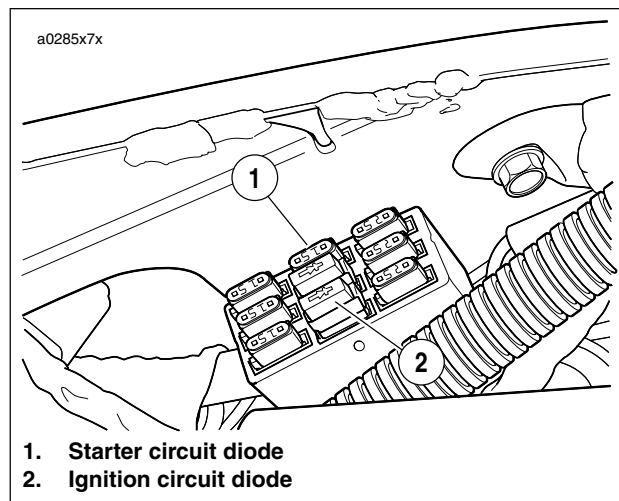

Figure 7-42. Diode Location in Fuse Block
3. See Figure 7-42. Both diodes are mounted in the fuse block under the seat.
1. See Figure 7-42. Install the **new** diodes into position on the fuse block by pushing it into the slot.